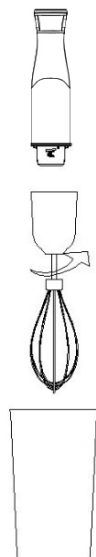

Abb. 3
- Insert the whisk attachment (7) into the whisk gear (6).
- Insert the whisk gear (6) into the motor unit (2) and turn it counterclockwise, make sure that the gear (6) and the whisk (7) are fixed properly (fig. 3).
- Immerse the whisk attachment (7) into a suitable bowl with food. You can put the foodstuffs into the cup (11).
- To switch the unit on, press and hold down the button (4) .
- When you press and hold the button (4) you can control the attachment rotation speed
- by turning the control knob (5).
- For operation at the maximal rotation speed, press and hold down the button (3) «TURBO».
- After you finish using the unit, disconnect the power plug from the mains socket, disconnect the whisk gear (6) from the motor unit (2) by turning the gear (6) clockwise.
- Remove the whisk attachment (7) from the gear (6).